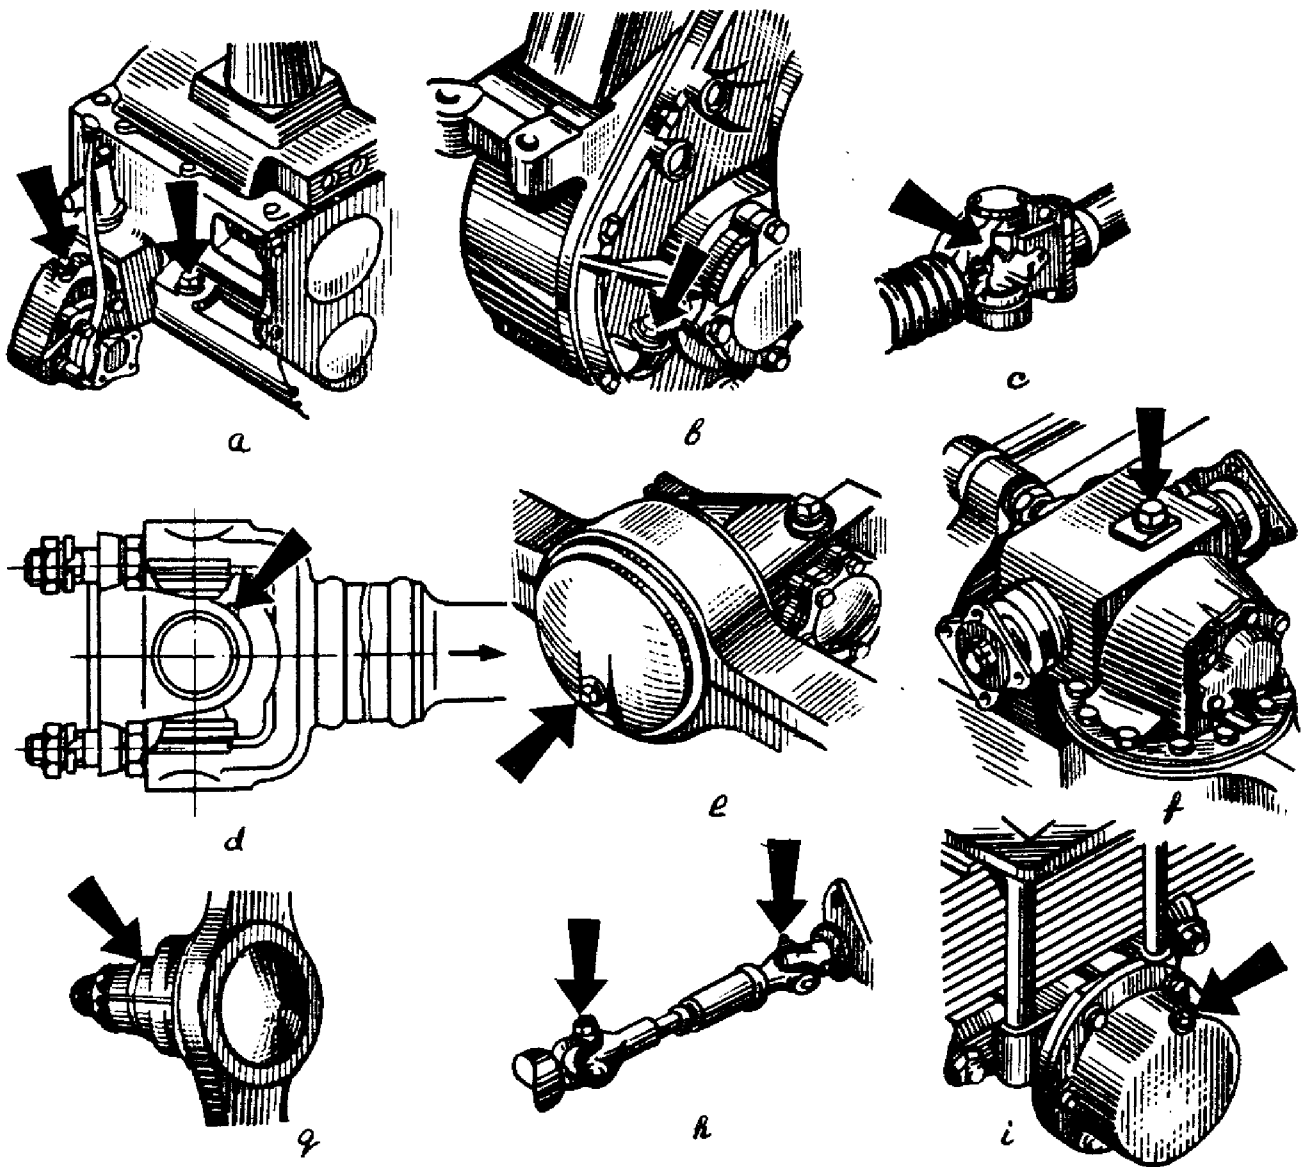

FIG.18. LUBRICATING POINTS FOR T-14B AUTOMOTIVE TRANSMISSION OIL (WITH ADDITIVE)
48. Using the automotive transmission oil, grade T-14B (with an additive), МРТУ-12Н No.34-63 or ТАМ-15В, МРТУ-38-1-185-65 (a substitute is oil ТАМ-15, GOST 8412-57) (Fig.18), lubricate: